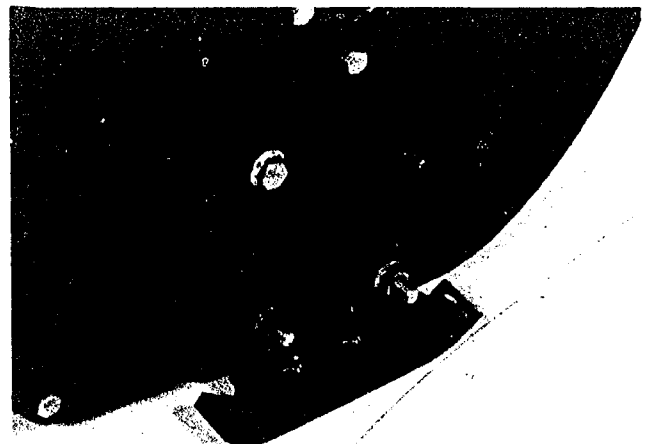

Figure 33
1. Move snowthrower to a level surface. Next, loosen four flange nuts (Fig. 33) securing both skids to auger side plates. Skids must slide up and down.
4. Loosen four flange nuts (Fig. 33) securing both skids to auger side plates. Next, slide skids down as far as possible so auger is as far from the level surface as skid adjustment allows; then tighten flange nuts.